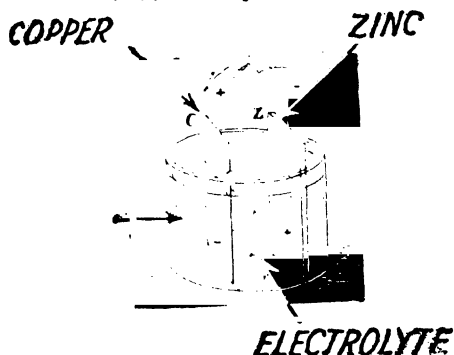

FIG. 65. A SIMPLE ELECTRIC BATTERY CELL
storage batteries. A battery cell of whatever kind is made up of four chief parts and these are (1) the *jar*, or containing vessel; (2) the cell liquid, or *electrolyte*; (3) the *positive element*, and (4) the *negative element*, all of which are shown in Fig. 65.